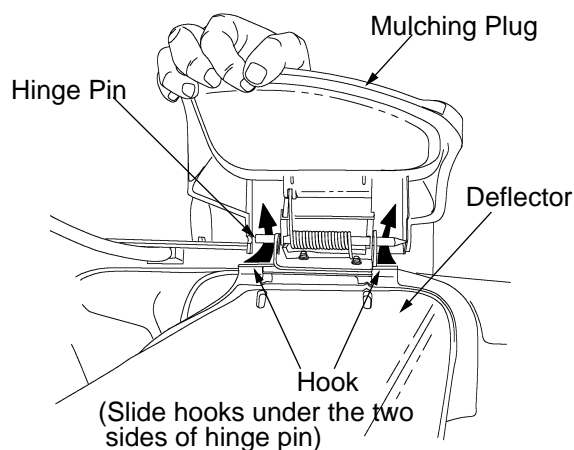

FIGURE 11
- Slide the two hooks on the side discharge chute under the hinge pin on the mulching plug assembly. See Figure 11. Lower the mulching plug. Do not remove the mulching plug at any time, even when you are not mulching.